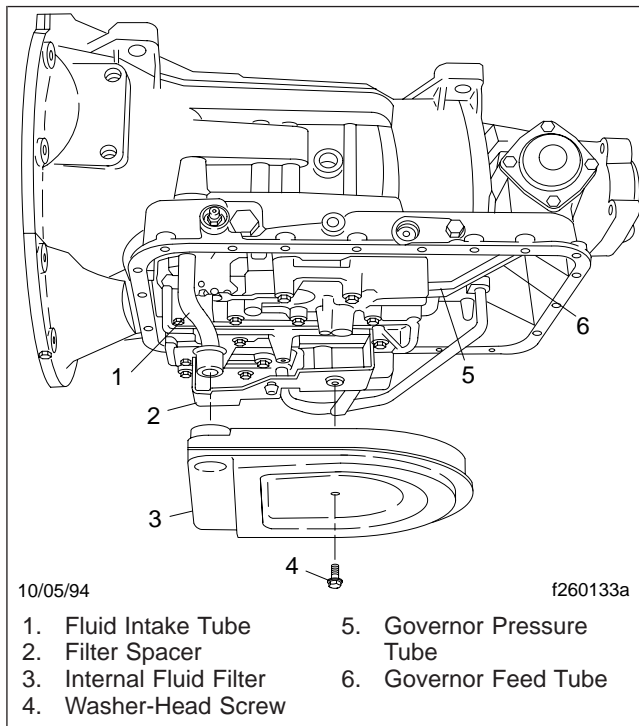

Fig. 1, AT Series Transmission Filter
6. Remove the washer-head screw that attaches the internal fluid filter to the filter spacer, then remove the filter and discard it. See Fig. 1. Remove the fluid intake tube. Then, remove the seal ring from the intake tube and discard it.